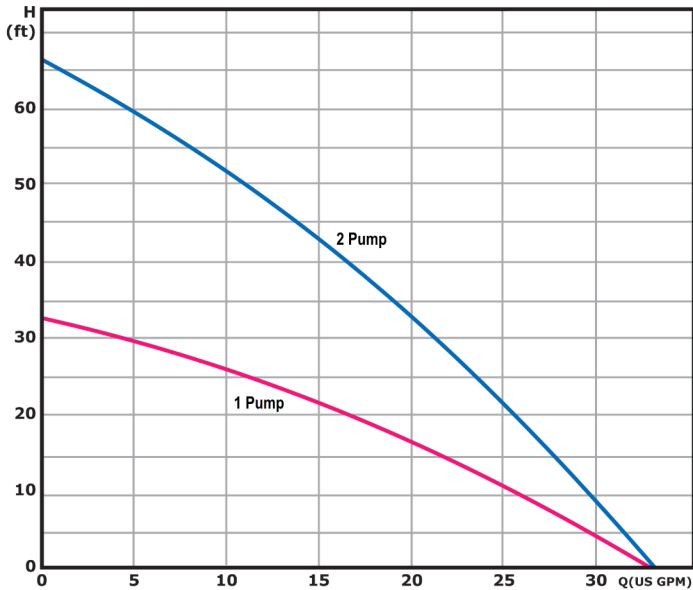

Fig. 1. Low Head Pump Center Flow Chart
Before installing the QT® Flow Center, check the flow charts and loop table against system flow and pressure drop characteristics to be sure the correct flow center is selected for the system. A one-pump flow center can accommodate flow for 3 1/2-ton units and smaller. A two-pump flow center can accommodate flow for 3 1/2- through 6-ton units. (See Fig. 1, 2) To ensure adequate flow, the selection must be made based on your specific system design.
1. By using the flow meter tool, monitor the flow (GPM) being pumped through the entire system. If the flow is not correct, check that the proper flow center has been selected for the application using curves from Fig. 1, 2. If the pump curve indicates the proper flow center was installed and the GPM is less than the system requires, an obstruction in the system is restricting flow.